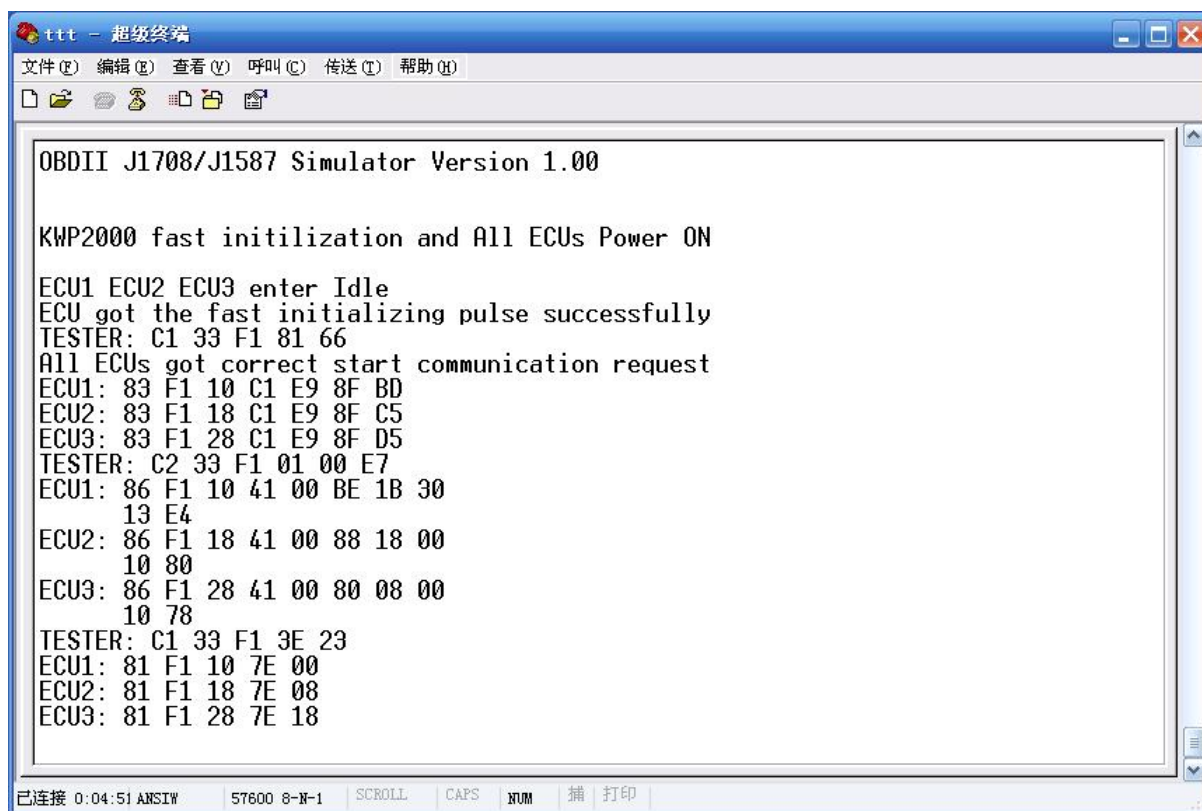

Fig.5 Hyper-terminal Display for KWP2000 FAST
Step5: You can adjust the 3 knobs in the front panel to change the Vehicle speed, engine speed and coolant temperature. You will see the corresponding protocol LED blink if your tester communication with the simulator successfully within every 5 seconds. Fig.5 is the example of KWP2000 fast.